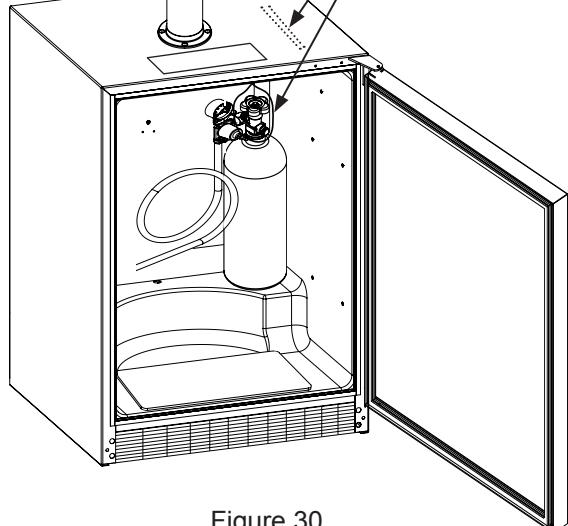

Figure 30
8. Locate the CO₂ tank in the corner of the refrigerator as shown in Figure 30 and secure with the chain. Close the faucet handle on the tower.
2. Be sure the faucet handle is closed on the tower (see Figure 30).